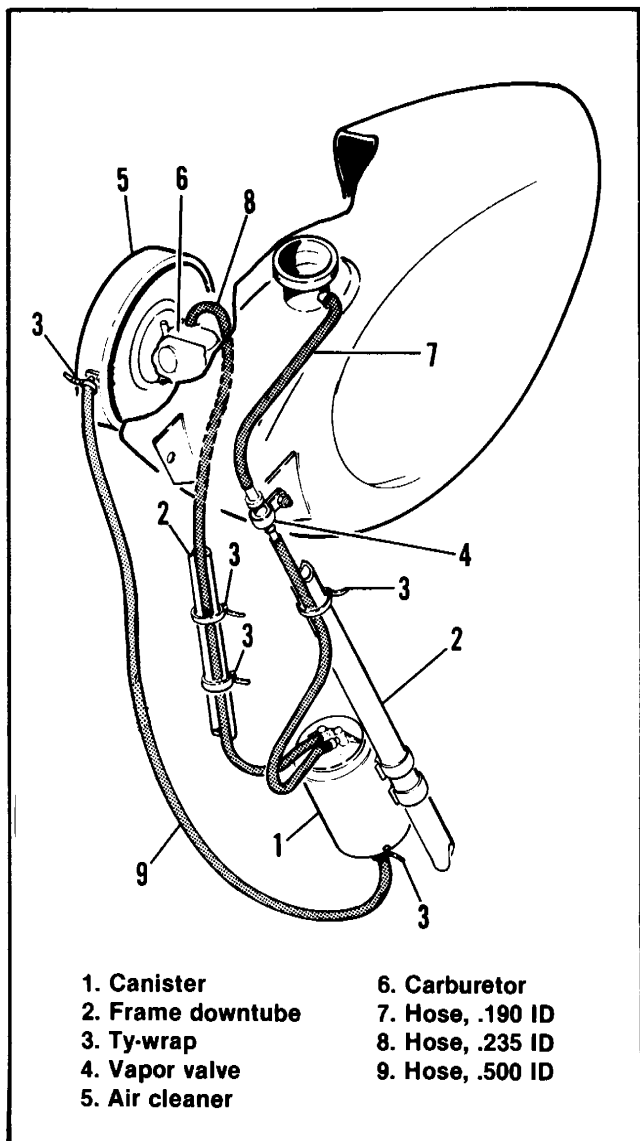
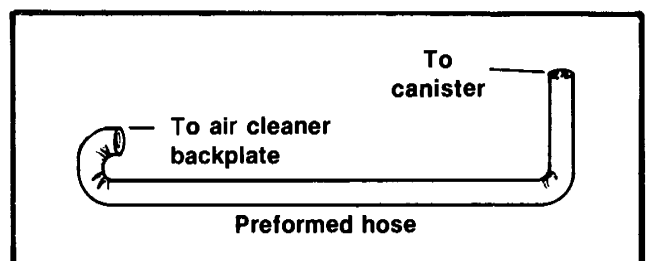

Figure 4-53. Evap. System
Figure 4-56. Preformed Hose Connections
1. See Figure 4-53. Take small 0.190 ID hose (7) and push one end over fitting at top of canister labeled "tank". Lead hose to left downtube and secure with ty-wrap (3). Bring hose up to the bottom of the vapor valve and cut to length. Push free end of hose over lower fitting on vapor valve.
3. Take 0.235 ID hose (8) and push hose through center cavity under fuel tank. Bring hose around rear of carburetor, between throttle cables and on to purge fitting. Bring free end of hose down right frame tube to fitting on top of canister labeled "carb". Cut hose to length and push hose on fitting. Secure hose to frame with two ty-wraps.
4. See Figure 4-56. Take large diameter pre-formed hose and push end with short bend over fitting in-
stalled at front of air cleaner backplate. Route hose outside push rod cover and down to canister as shown in Figure 4-53. Connect end of hose with long leg to the fitting at bottom of canister. Secure hose to canister with ty-wrap. Do not cut hose. Be sure regulator wires do not contact hose or canister.
1. See Figure 4-53. Take small 0.190 I.D. hose (7) and push one end over fitting at top of canister labeled "tank". Lead hose to left downtube and secure with ty-wrap (3). Bring hose up to bottom of the vapor valve and cut to length. Push free end of hose over lower fitting on vapor valve.